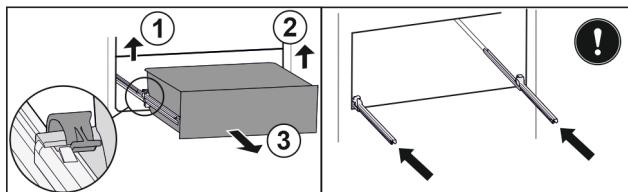

Fig. 111
- ▶ Lift left clamp and simultaneously pull drawer forwards on the left. Fig. 111 (1)
- ▶ Lift right clamp and simultaneously pull drawer forwards on the right. *Fig. 111 (2)*
- ▶ Remove drawer to the front. *Fig. 111 (3)*